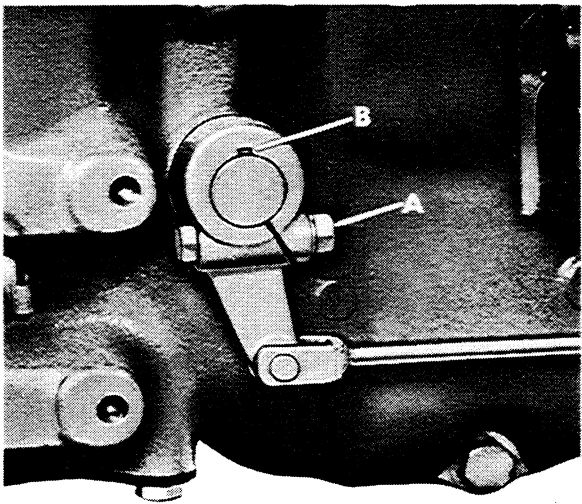
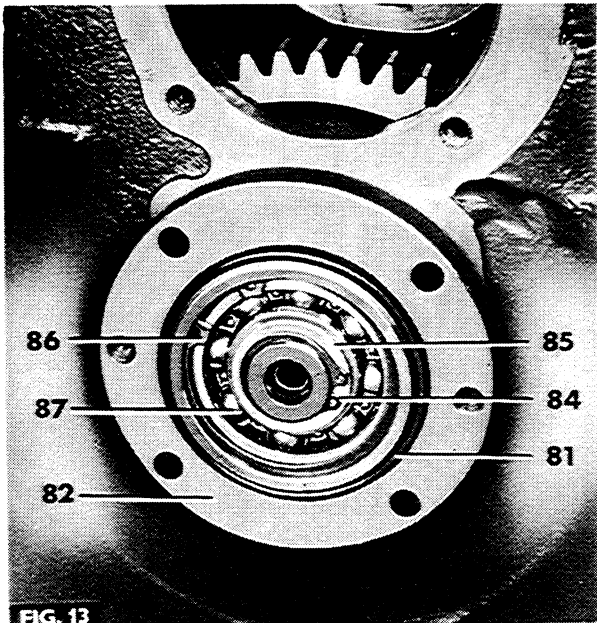

FIG. 12
FIG. 13
2. Figure 12. Remove the bolt, nut and lockwasher (A) securing the left brake cross shaft lever. Remove the lever and key (B) from the shaft.
4. Remove the four bolts (78) securing the cover plate (80).
5. Figure 13. Remove the circlip (84) and the thrust washer (85).
6. Screw two  $\frac{3}{8}$  UNC x 75 mm (3 in) bolts into the tapped holes in the bearing housing (82). Progressively and evenly tighten the bolts until the housing is extracted.
7. Remove the 'O' ring (81) from the bearing housing.
8. If the bearing (87) needs servicing, remove the circlip (86) and press out the bearing (87).
1. Refit the p.t.o. driveshaft front bearing (87) to its housing (82) and secure it with the circlip (86).
2. Refit the housing (82) together with a new gasket (83) into the transmission case.
3. Pull the p.t.o. driveshaft (90) into its bearing (87) by using special tool MF 218A.
4. Figure 13. Secure the p.t.o. driveshaft with the thrust washer (84) and the circlip (85).
5. Using a new 'O' ring (81) refit the front cover plate (80).
**NOTE – WHEN REFITTING THE COVER PLATE AND THE BOLTS (78) USE SEALING COMPOUND 'HYLOMAR COMPOUND SQ 32M' TO SEAL THE PLATE AND BOLT THREADS.**
7. Figure 12. Refit the lever and key to the brake cross shaft, then re-tighten the nut and bolt.